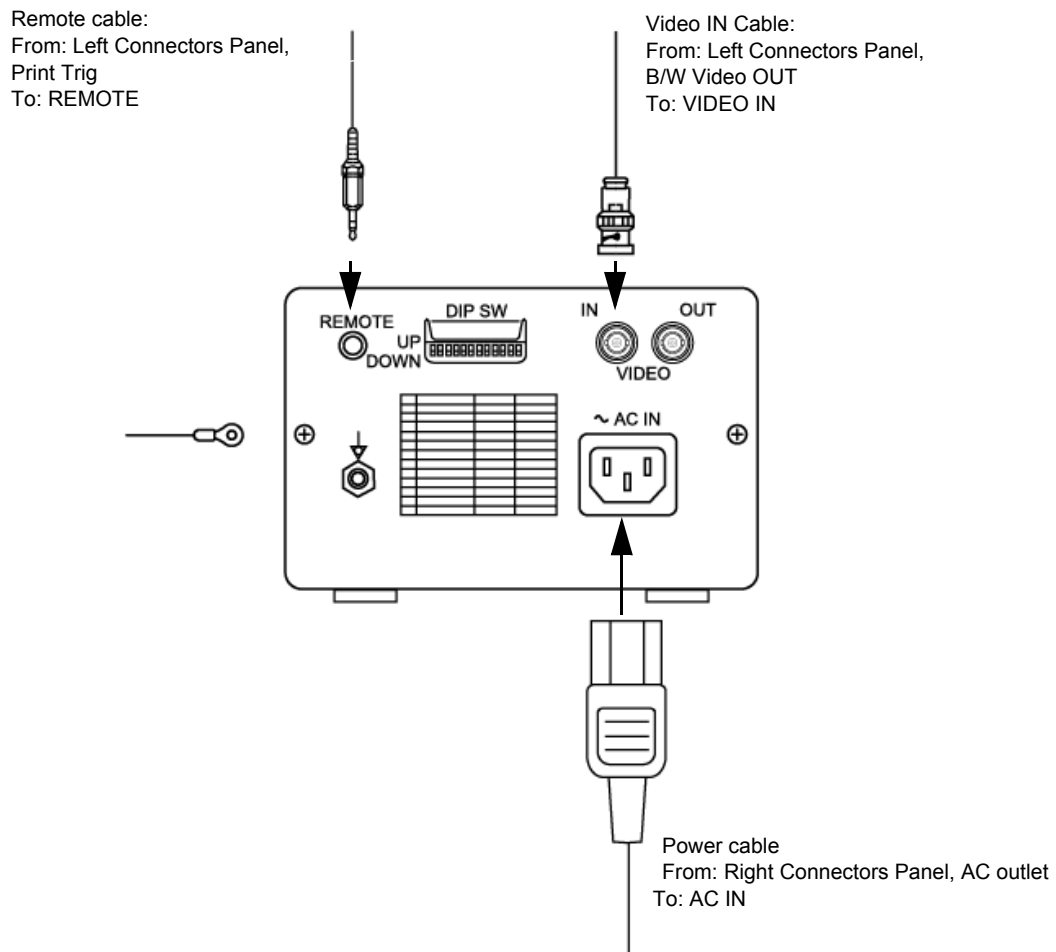

Figure 8-110 B/W Video Printer Connection Cables
- 2.) Connect the Remote cable, the B/W Video IN cable, and the Power cable, as shown in Figure 8-110 below.
- 4.) Disconnect the Remote cable, the B/W Video IN cable, and Power cable from rear of the printer (refer to Figure 8-110 on page 8-126).